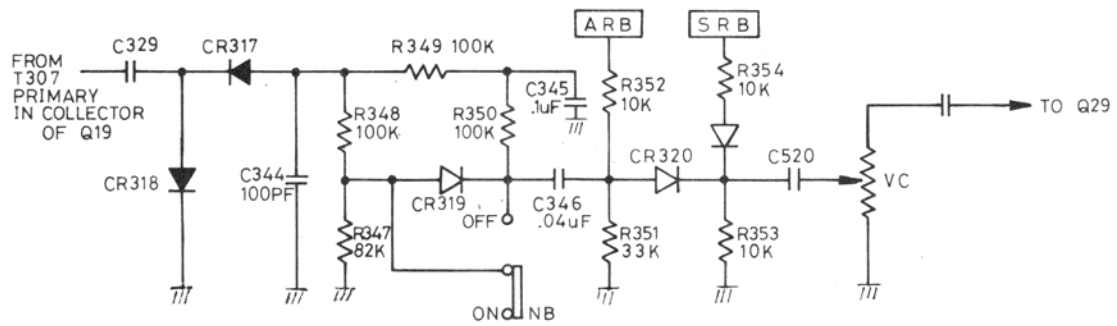

Figure 2-8 AM Detector and Noise Limiter Circuit
2.5.5 AM Detector and Noise Limiter (See Figure 2-8)